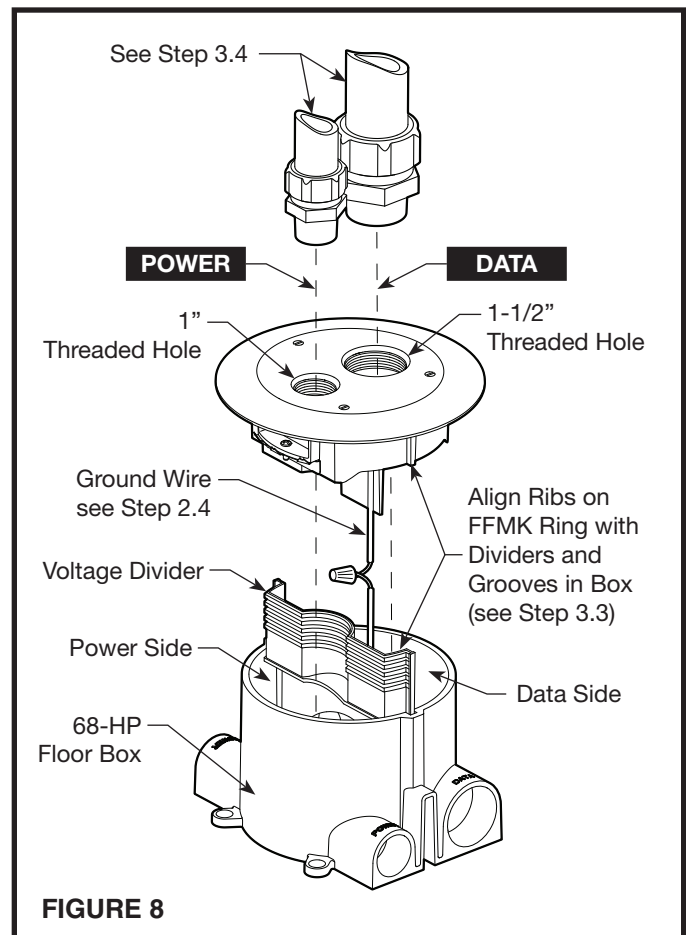

FIGURE 8
- 2.4 Floor Box and Cover must be grounded according to local and national electric codes. Connect FFMK ring ground wire to circuit ground wire. When cast iron box (68-HP-CI) is used, connect circuit ground wire to box ground. Note: 68-HP-CI ground wire shown in instruction sheet furnished with box (see Figure 8).
- 2.5 Remove cover plugs and pull power (electrical) conductors and grounding wires up through power side of floor box and through power side of FFMK ring. Continue pulling conductors through 1" threaded conduit hole in cover (see Figure 8).
- 2.6 Pull data cables up through data side of floor box and through data side of FFMK ring. Continue pulling data cables through 1-1/2" threaded conduit hole in cover (see Figure 8).
- 3.3 Carefully align guide ribs on FFMK ring with divider and grooves in floor box. The 1" threaded power conduit hole must be located over power compartment in box. Lower FFMK ring and cover assembly into box opening. Apply pressure to top of cover to complete installation (see Figure. 8 and 9). Clean excess sealant from around cover edge.